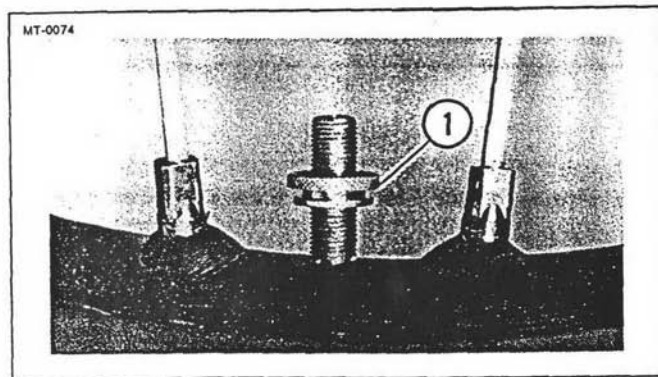

Figure 5-49. Valve Stem Nut
4. See Figure 5-49. Remove valve nut (1) from valve stem.
4. See Figure 5-49. Install valve stem nut (3) just far enough so that it engages a few threads and prevents valve stem from being drawn completely into tire.
11. See Figure 5-49. Tighten valve stem nut (1).